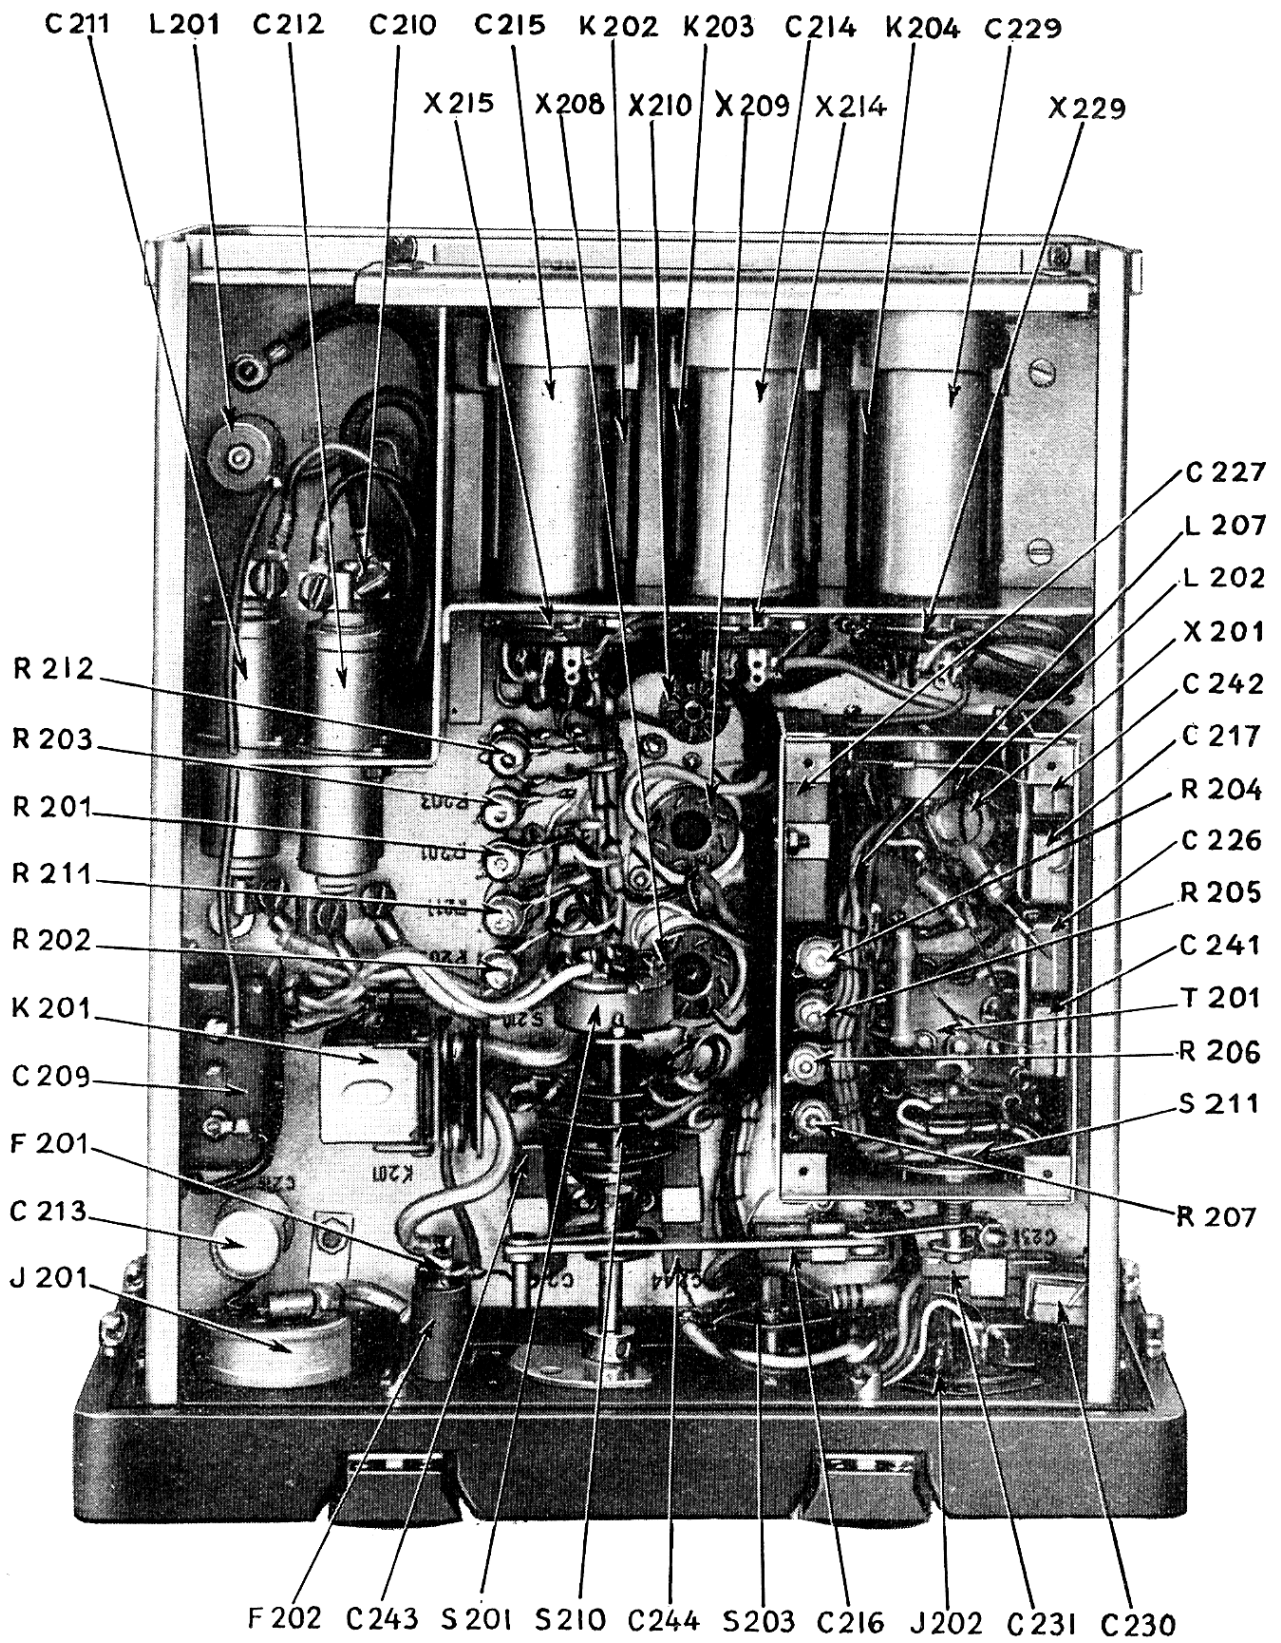
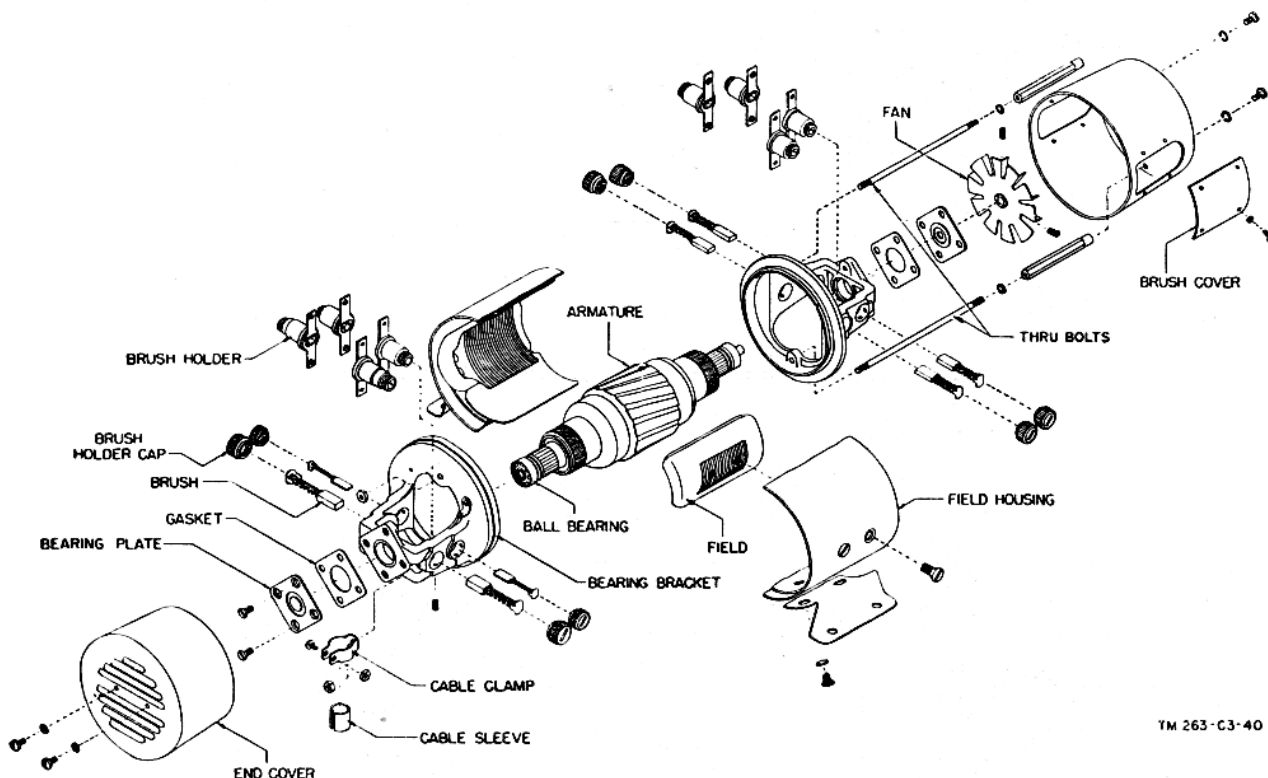
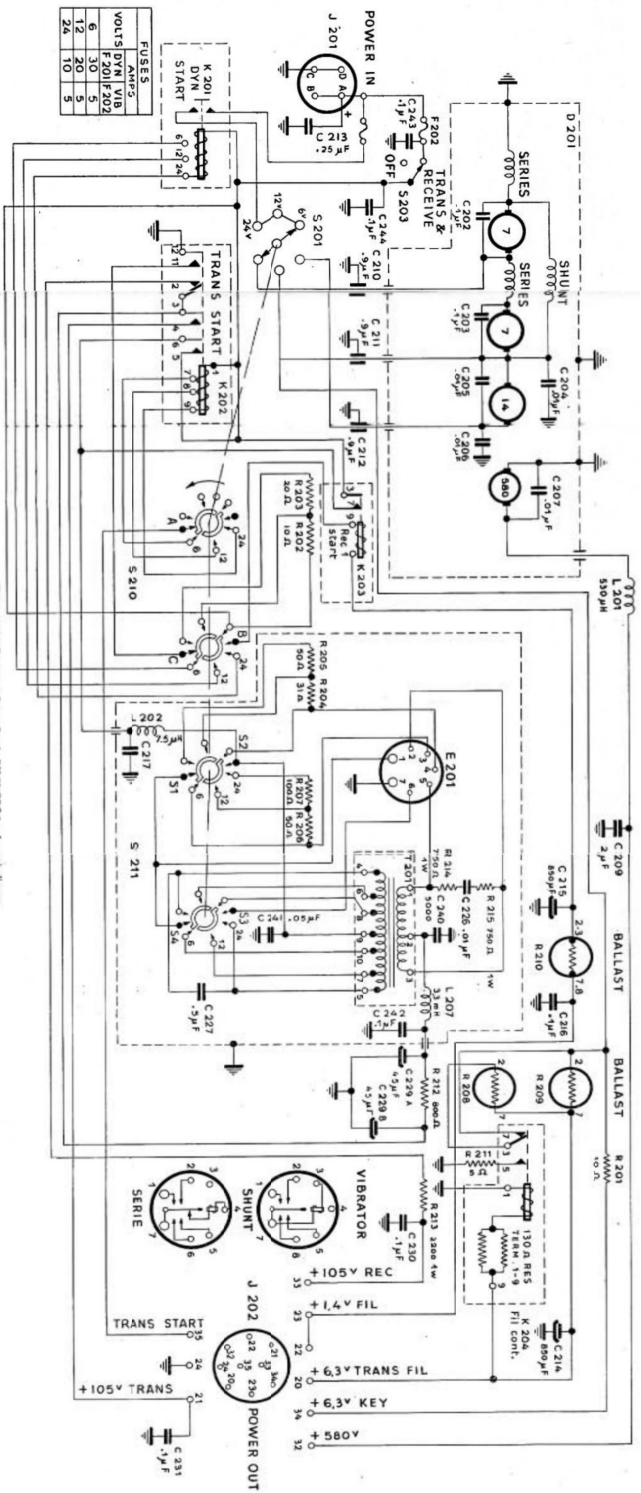

Figure 122.2. Dynamotor-Power Supply DY-88/GRC-9, cover removed, bottom view.
Figure 127.1. Typical dynamotor D201, exploded view.
Figure 141.1. Dimensional Power Supply DT-480/DT-5, schematic diagram.
(2) Capacitors C214, C215, and C229 (fig. 122.2) and relays K202, K203, and K204 are located on the under side of the chassis, toward the rear of the unit. To gain access to the capacitors and relays, first remove the two screws holding bracket to the unit. The capacitors and relays now can be removed.
(3) Do not attempt to repair the hermetically sealed relays. If they are defective, they must be replaced.
In order to trouble shoot the dynamotor power supply, it is necessary to remove the power supply from the case. Connect the power supply to a radio set known to be good. Set voltage selector switch control H206 (fig. 122.2) to the proper setting corresponding to the voltage of the battery to be used. Check the DYN FUSE. Be sure it corresponds to the voltage of the battery to be used as shown in paragraph 45.1*b*. Note that the terminals on output receptacle J202 are numbered (fig. 122.2). These terminals are to be used to check the output voltage of the dynamotor power supply.
(1) Disconnect the dynamotor wires at the under side of the chassis (fig. 122.2) by loosening the screws which hold the dynamotor wire spade lugs. *Tag all wires before removal.*
(2) Remove the four screws and nuts which hold the dynamotor to the chassis.
(3) Gently pull the dynamotor up off the chassis.
*c.* Remove the screws which hold the front and rear covers to the dynamotor. Remove the covers (fig. 127.1).
Page 163. Fig. 127. Insert figure 127.1 after figure 127.
Note. These measurements are made at output receptacle J202 (fig. 122.2) with the receiver-transmitter connected to the dynamotor power supply. The terminals on J202 are numbered (fig. 122.2). Figure 141. Insert figure 141.1 after figure 141.